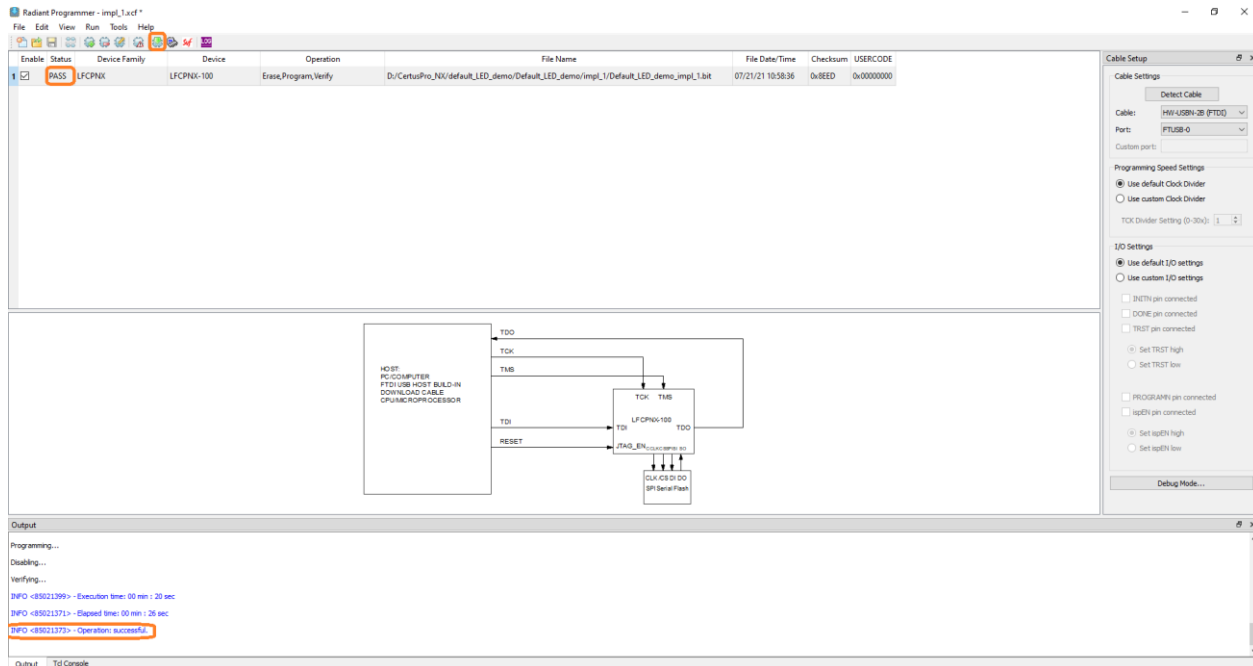

Figure 4.8. Radiant Programmer – SPI Flash Operation Pass
- c. Click the **Program** button in Radiant software, as shown in Figure 4.8. If the programming is completed successfully, the **Status** column shows **PASS**. The Output pane also shows **INFO – Operation: successful**. The bitstream file has been downloaded into the external SPI flash.